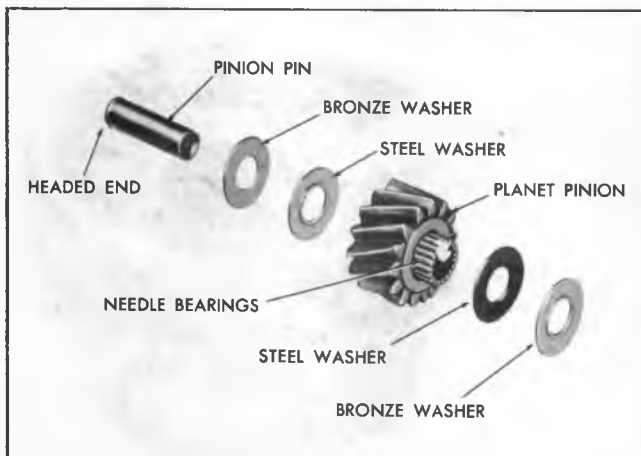

Fig. 108T-Planet Pinion Assembly--Exploded View
6. Install eighteen (18) needle bearings into each pinion using petrolatum to hold bearings in place. Use pinion pin as guide (fig. 108T).